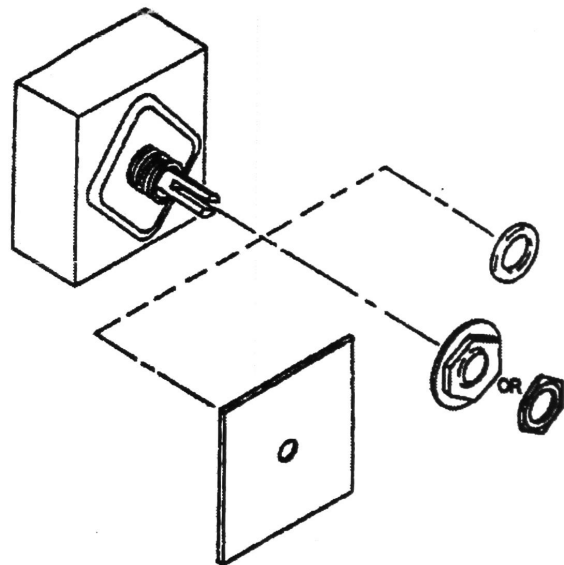
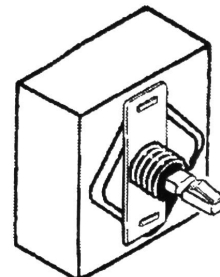

Fig. 1
Fig. 2
**Note:** In some circumstances, the shaft of this replacement switch may be different than the original. Some have a spring clip design (see figure 2), and others have the split shaft configuration (see figure 1). either design will work. When using the spring clip design, the clip should be aligned with the round part of the knob core for a proper fit.